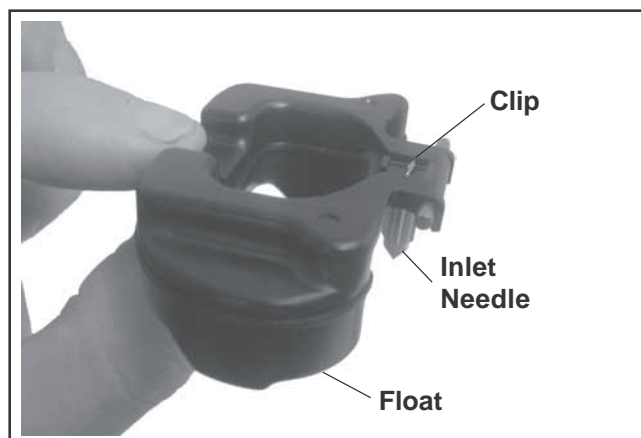

Figure 5-14. Float and Inlet Needle Details.
5. Attach the inlet needle to the plastic tang of the float with the wire clip. The formed 90° lip should point up, with the needle valve hanging down. See Figure 5-14.